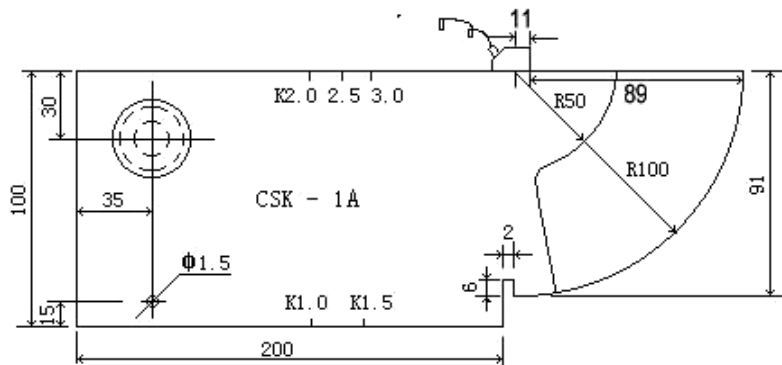
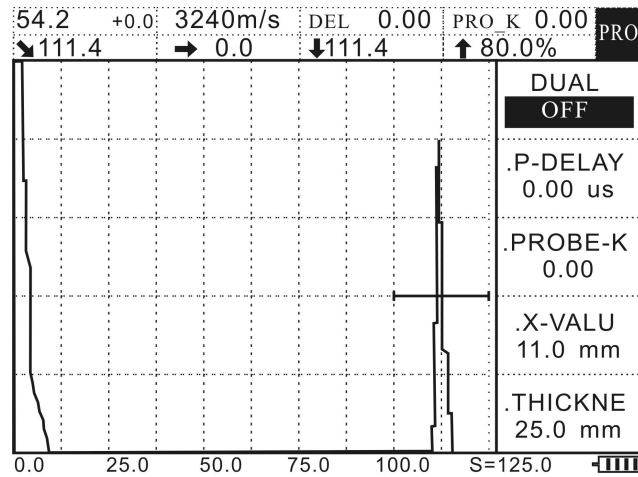

Figure 4-4
Figure 4-5
3. Calibrate the front edge of the probe: put the probe on the test block and move it till the reflector echo of the hollows of R100mm reach the highest level, measure 89mm of the front face of the probe with a ruler, at this point, the front edge value of the probe is:  $100-89=11\text{mm}$ . As shown in Figure 4-4, after that, press **PROBE** to enter the probe menu, then press  (up) or  (down) to select the probe front edge submenu, press  (left) or  (right) to set the probe front edge value as 11mm, as shown in Figure 4-5.